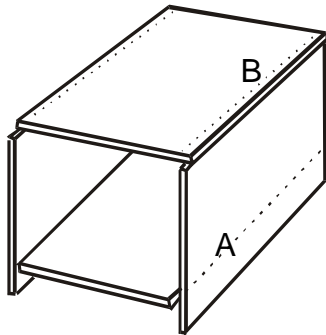

fig.1
Originally, (fig.1) the walls of the vehicle were screwed horizontally into the floor (A) and the roof edge was screwed down through the wall edge (B). Over time, these connections would loosen and the body would shift and squeak.